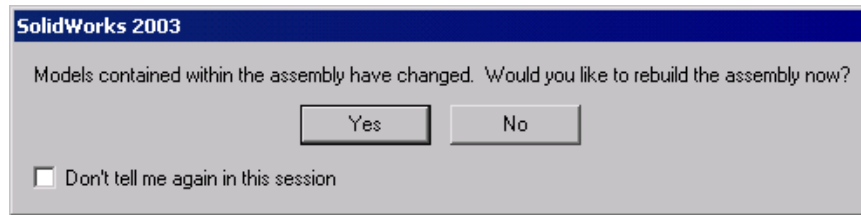

Figure 11-6 The SolidWorks 2003 dialog box
*If you need to edit components separately in their part documents, select the component and invoke the shortcut menu. Choose **Open** "part name" from the shortcut menu. The part document of the selected component will be opened. You can edit the component individually in the part document. After editing the component, save the part and close the part document and return to the assembly document. The **SolidWorks 2003** dialog box will be displayed as shown in Figure 11-6. This dialog box prompts you that the models contained within the assembly have changed. Would you like to rebuild the assembly now? Choose the **Yes** button from this dialog box.*